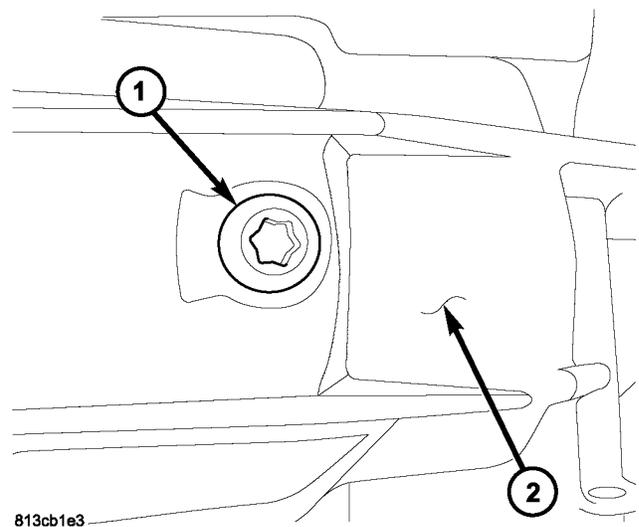

Fig. 44 IDLER SHAFT BOLT
(1) Remove reverse idler gear shaft bolt (1) (Fig. 44) from housing (2).